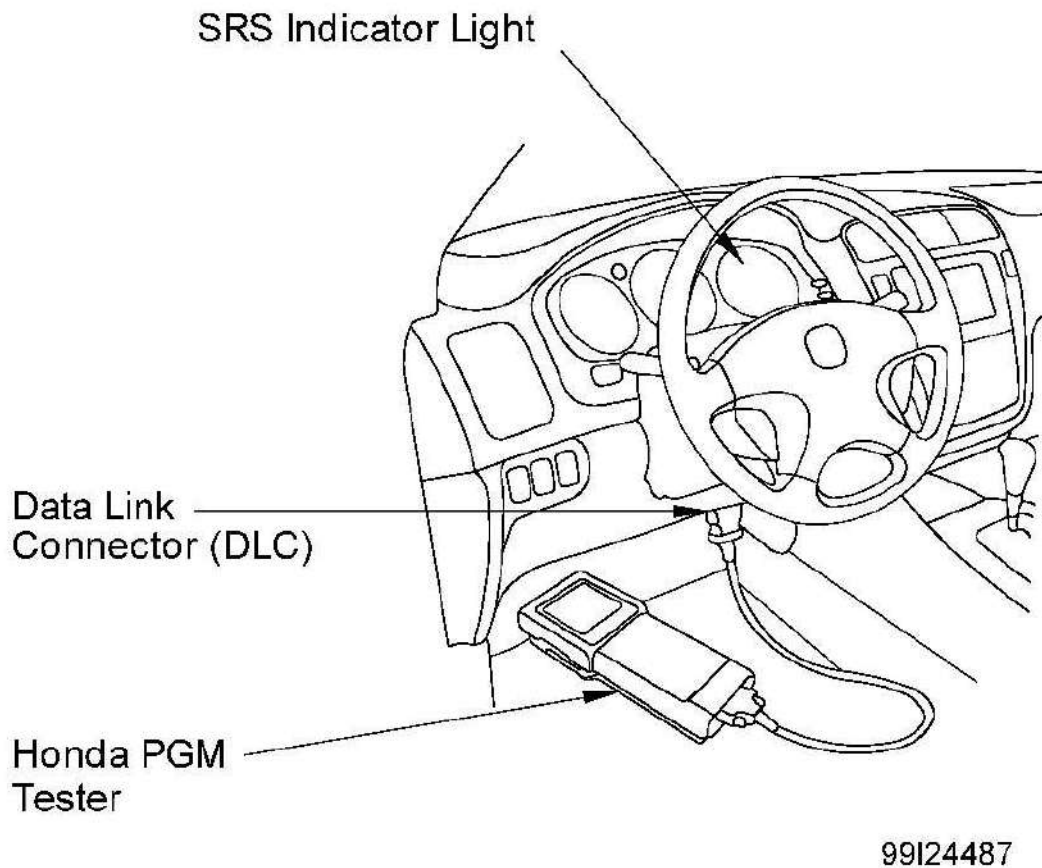

Fig. 19: Connecting Honda PGM Tester
SRS includes a self-diagnostic function that checks system for faults in SRS components and related wiring. A fault exists if SRS indicator light on instrument cluster continues to glow more than 6 seconds after ignition is turned on, or glows or flashes while vehicle is driven. See **Fig. 19** .
Connect Honda PGM Tester to 16-pin data link connector and follow tester prompts to read DTCs. See **Fig. 19** . If tester indicates no DTC, 9-1 or 9-2, confirm using SCS service connector.
1. Connect Honda PGM Tester to 16-pin data link connector and follow tester prompts in "SCS" menu. See **Fig. 19**.
Connect Honda PGM Tester to 16-pin data link connector and follow tester prompts to erase DTC. See **Fig. 19**.
1. Turn ignition off. Connect Honda PGM Tester to 16-pin data link connector and follow tester prompts in "SCS" menu. See **Fig. 19** . Connect SCS Service Connector (07PAZ-0010100) to Memory Erase Signal (MES) connector. See **Fig. 20** .